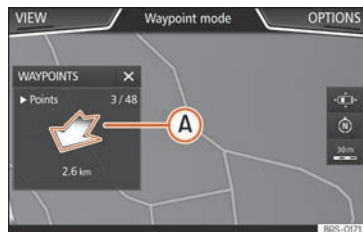

Fig. 215 Offroad route guidance mode
- The general direction of travel is indicated straight ahead by direction arrows in the Infotainment System pop-up window **>>> Fig. 215 A**.